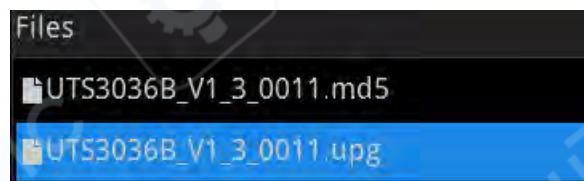

Figure 2-2 Upgrade Package
1. Decompress the upgrade package to the root directory of the USB flash drive. The package contains two files, xxxx.md5 and xxxx.upg, as shown in Figure 2-2;